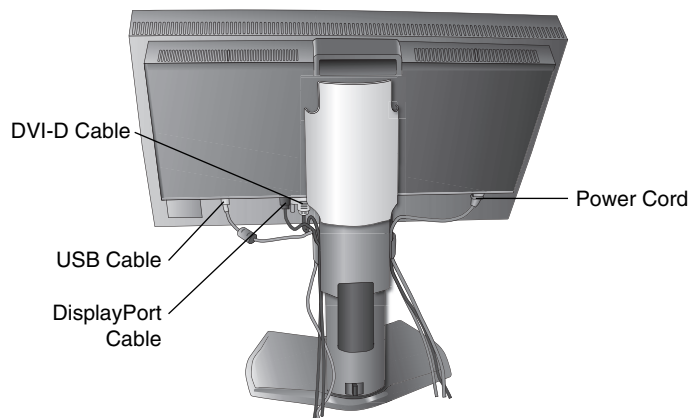
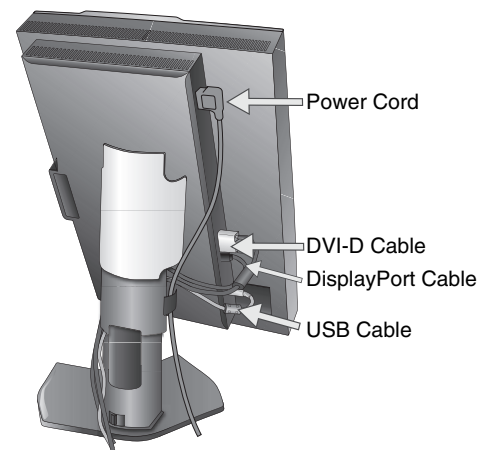

Figure C.2
Figure C.3
5. To keep the cables neatly organized, place them into the cable management system that is built into the stand. Place the cables in the hooks firmly and evenly (**Figure C.2** and **Figure C.3**).